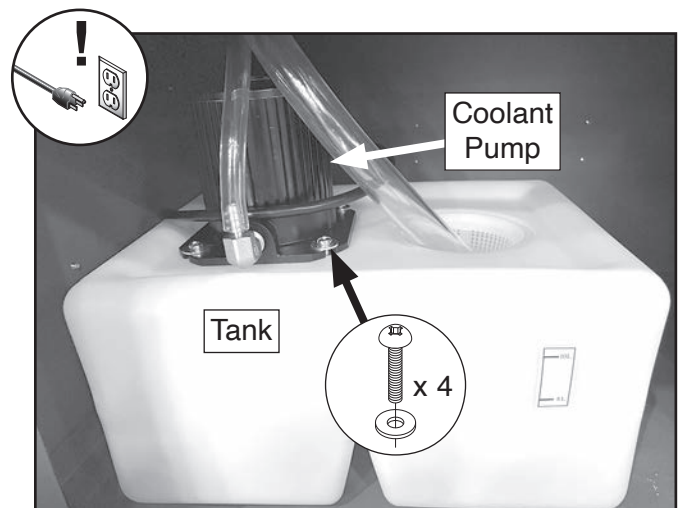

Figure 68. Location of coolant pump and fasteners.
2. Remove (4) Phillips head screws and flat washers shown in **Figure 68** to lift coolant pump out of tank.